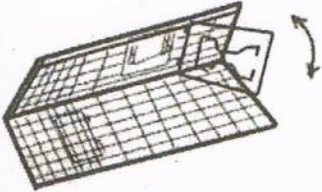

FIGURE 2
2. Holding the handle on top of the trap, slowly pull up the trap allowing it to fall into place. (Figure 2)